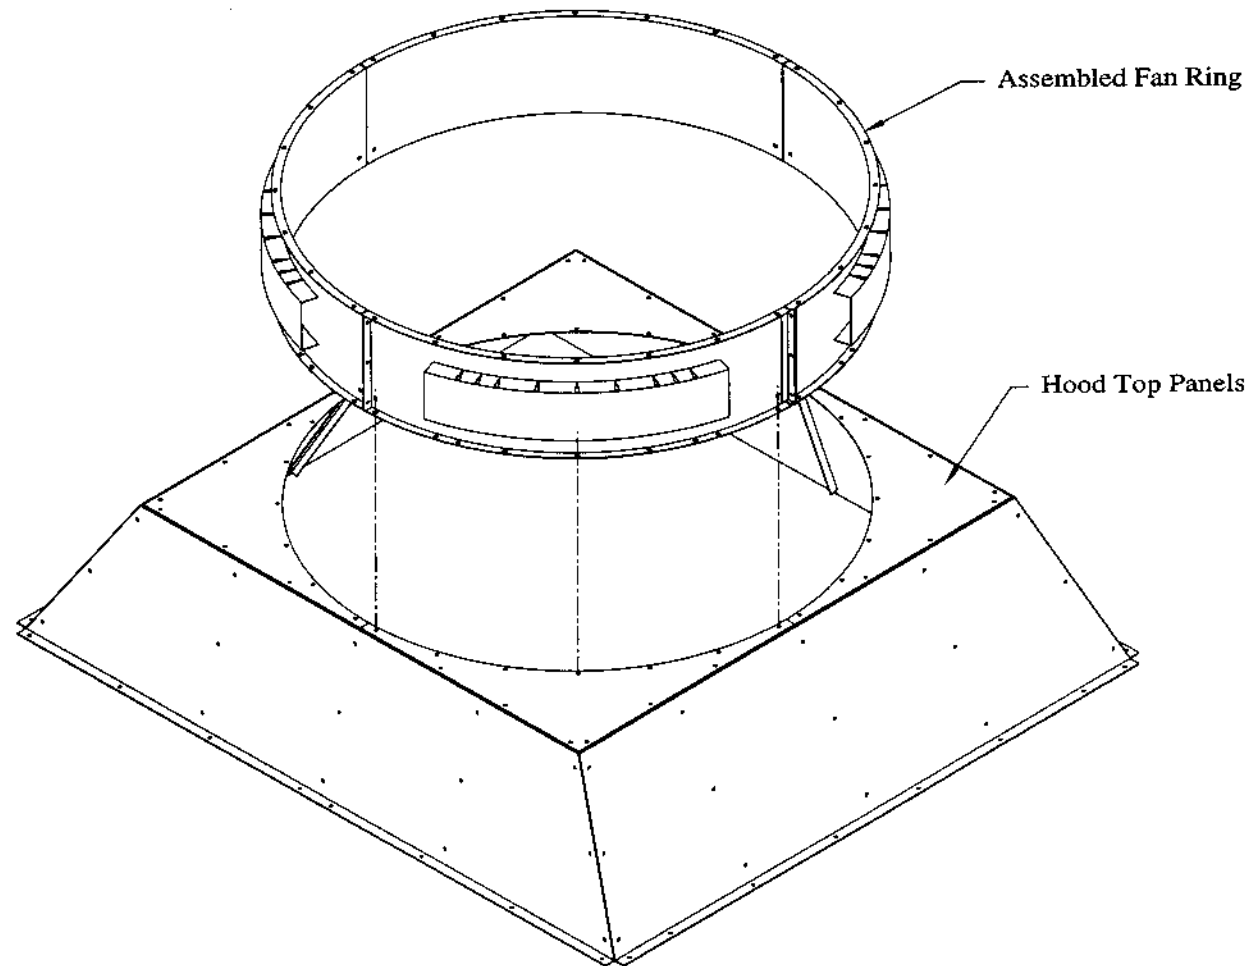

FIG. B2 - FAN RING
2. Loose bolt fan ring quarters to each other and then loose bolt fan ring to top panels. See Fig. B2.